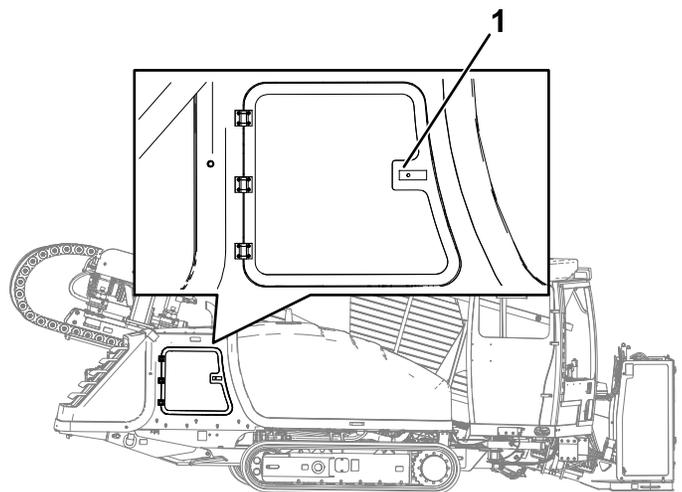

Figure 69
2. Push on the left side of the panel handle, and pull the panel open when the handle is released (Figure 69).